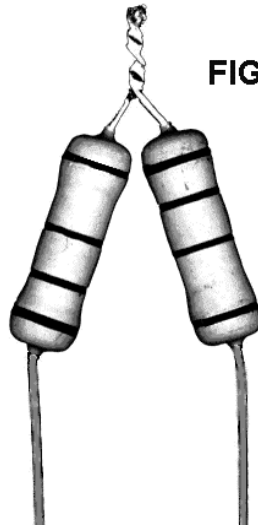

FIGURE 3
- 4) Replace R486 and R495 with (2) 15 ohm 3 watt resistors, (h/k part# J1771150771X), soldered in series to measure 30 ohms each. See Figure 3. Replace IC484 with +5v regulator, J1217780002X).